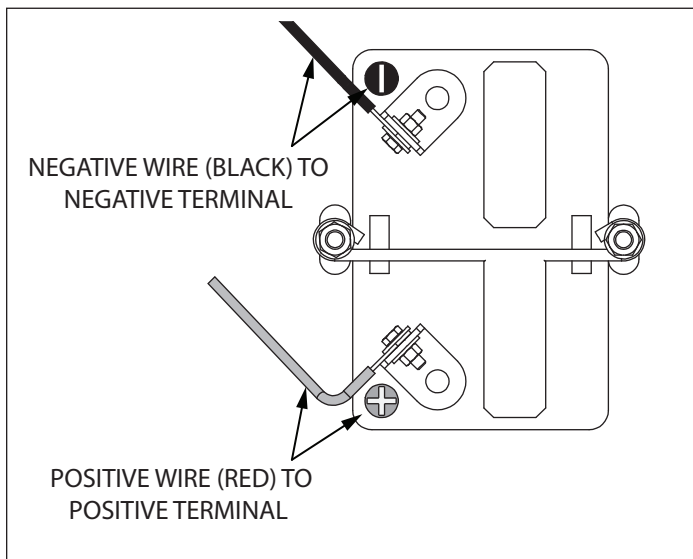

Figure 6
1. Make sure the battery is connected and grounded. See Figure 6.